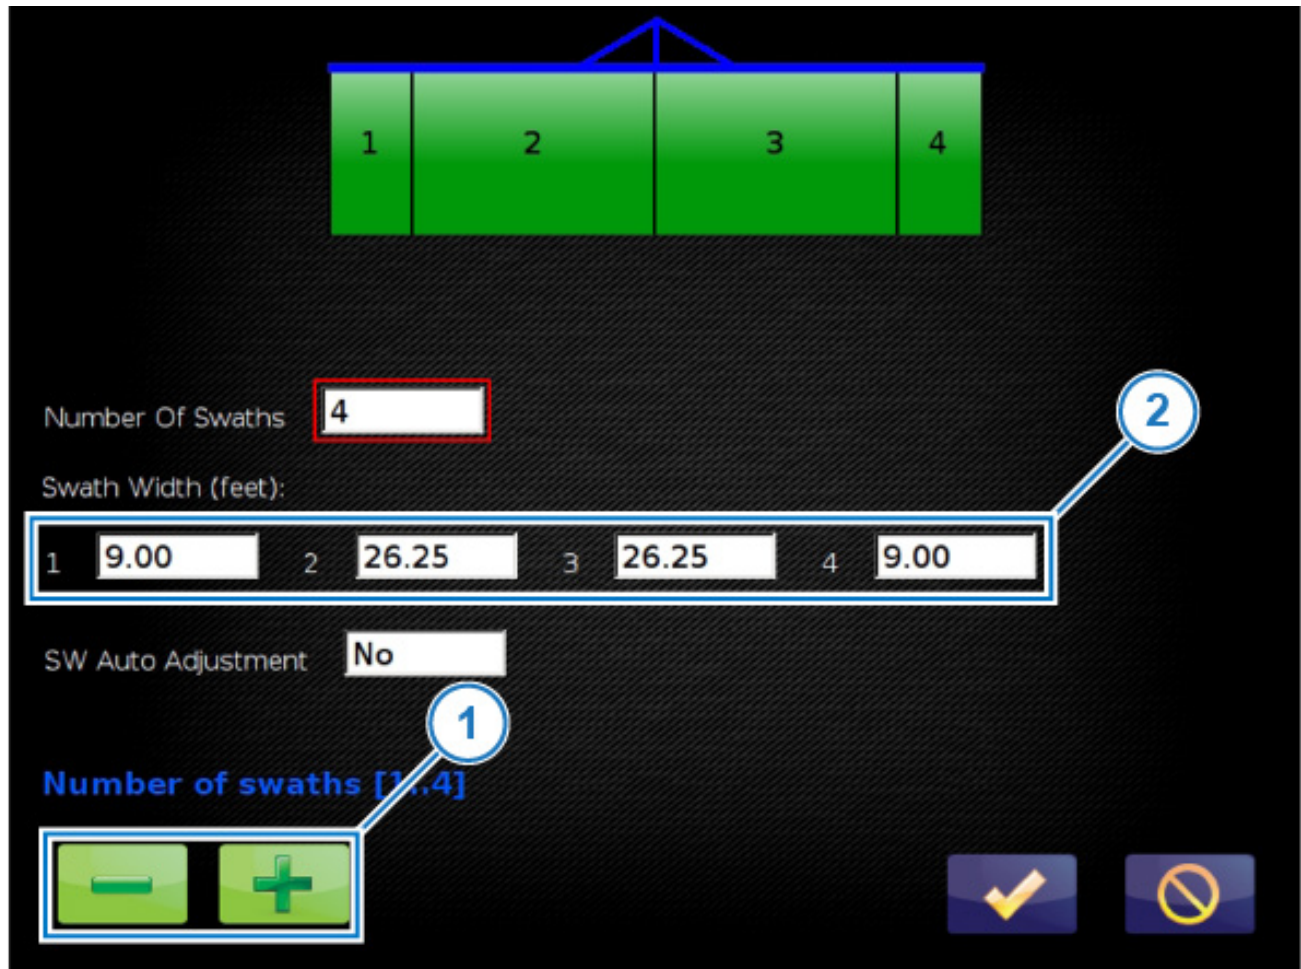

Figure 1: Swath Setup
2. Use the green **-/+** buttons (Figure 1, Item 1) to increase the number of swaths to 4.
3. Insert values for the width (in feet) of the boom sections in the **Swath Width** boxes (Figure 1, Item 2). **Swaths 1 and 4** should each be 1/8 of the total width of all four swaths. **Swaths 2 and 3** should each be 3/8 of the total width of all four swaths.